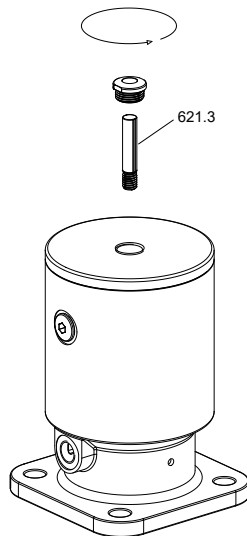

Figure 9: Removing the cap and position indicator, LAP.520/.530
1. Remove the plastic cap of the actuator with an open-ended spanner (WAF13/WAF21). Unscrew the position indicator (Fig. 9, Section 8.1).